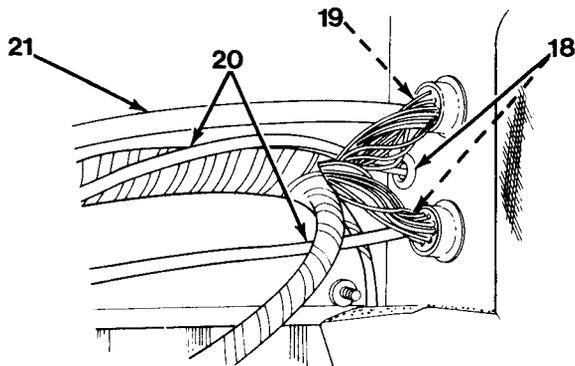
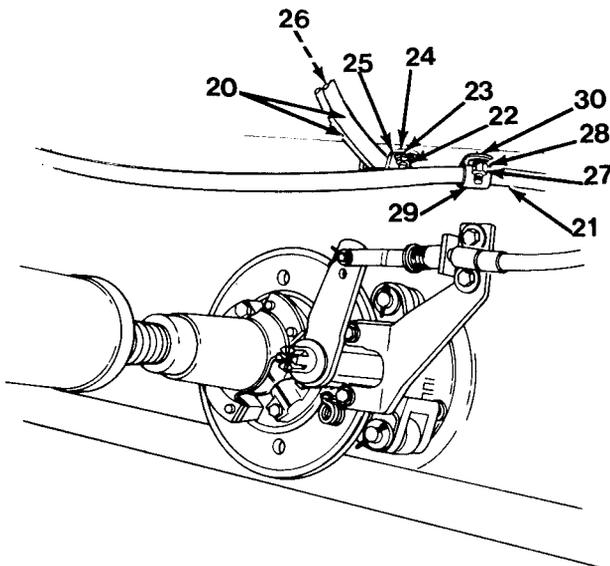

Figure 17-2
Figure 17-3
6. Release three jam nuts (15) and remove two cable terminals (16) and cable terminal (17).
7. Remove two grommets (18) and grommet (19, Figure 17-2) from rear cab panel.
8. Push two cables (20) and cable (21) through rear cab panel.
9. Remove nut (22), washer (23), washer (24) and clamp (25) from two cables (20). Cut and remove three wire ties (26, Figure 17-3) from two cables (20).
10. Remove two lock nuts (27), washers (28), clamps (29), and washers (30) from cable (21).
11. Near center of vehicle, cut and remove wire tie (26) from cable (21).